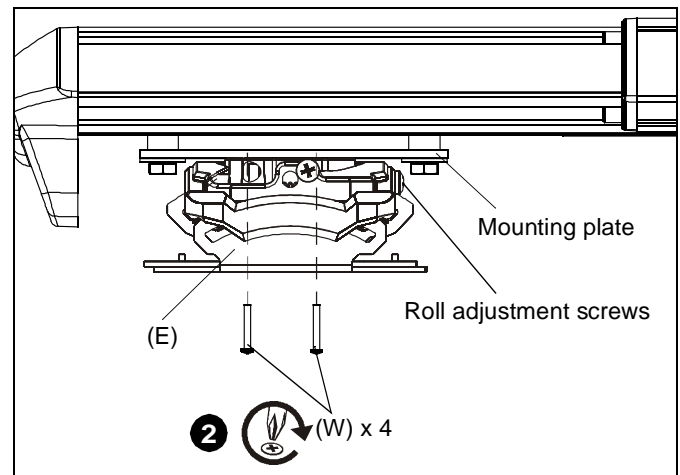

Figure 15
2. Install four #10-24 x 1-3/8" Phillips pan machine screws (W) through projector mount holes and into mounting plate. (See Figure 15)
IMPORTANT ! : If projector mount is NOT installed in the same direction as shown, ROLL adjustment screws will be inaccessible! (See Figure 15)